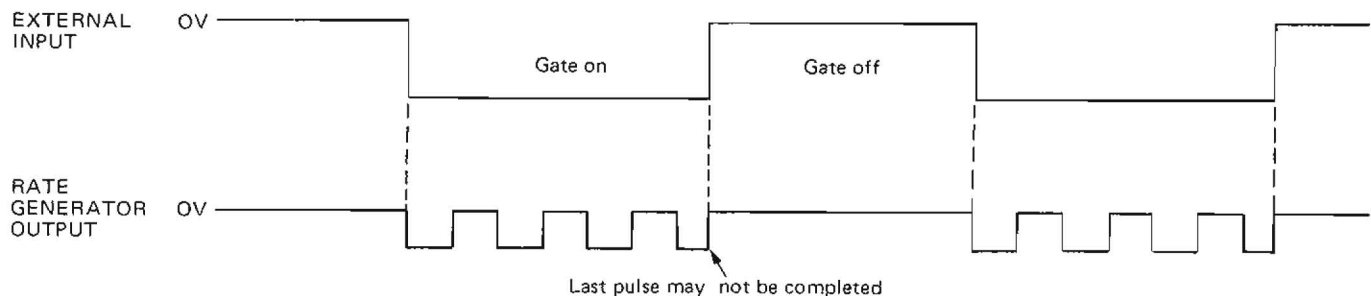

Figure 3-5. Rate Generator Output in External Gate Mode.
3-39 Set the NEG-POS-MAN switch ⑤ to POS and the EXT INPUT LEVEL control ④ to -1V. Vary the rate VERNIER ②. Note that the last pulse may be cut short by the gate turning off (see figure 3-5).